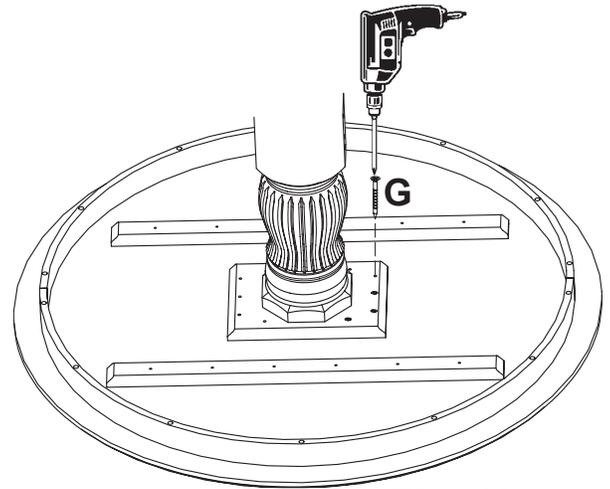

Fig. 3b
Place the Top Support over the holes and attach with ten #12 x 2" Pan Head Screws (G). See Figure 3b.